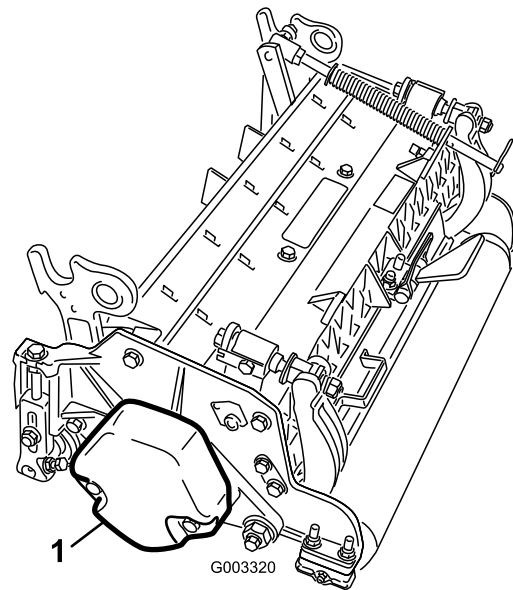

Figure 8
4. Make sure the counter weight (Figure 8) is installed to the proper end of the cutting unit as described in the cutting unit *Operator's Manual*.